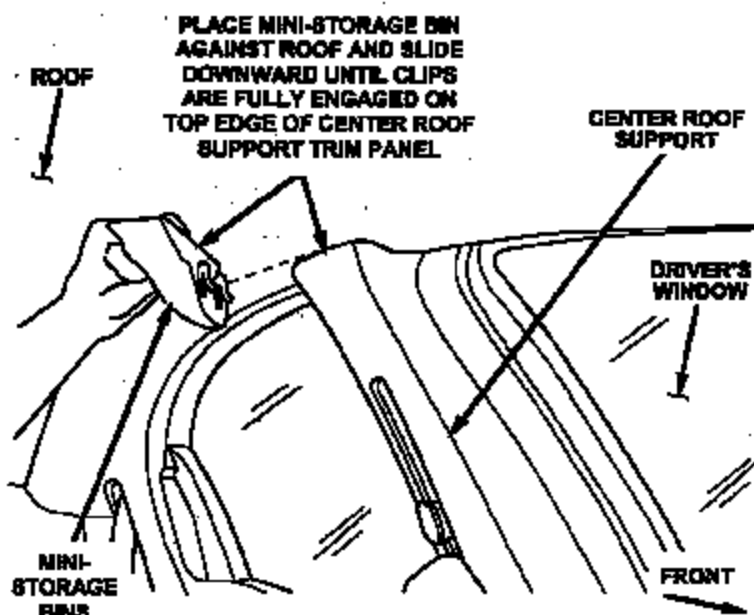

Figure 1 – Driver's Side Shown
2. Place the clip side of one of the mini-storage bins against the vehicle roof (headliner) just above the center roof support (B-Pillar) trim panel. Align the mini-storage bin so that it is centered with the B-pillar trim panel (Figure 1).